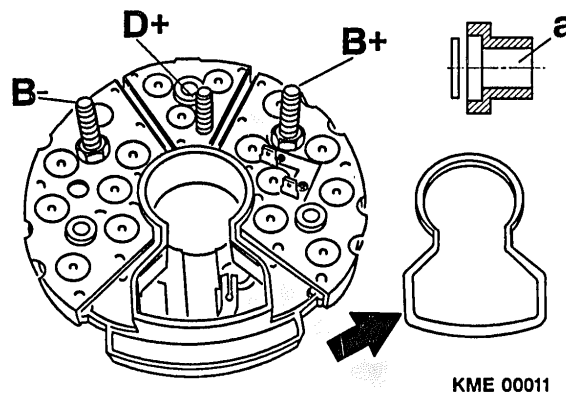

Figure 32 Rectifier Insulators and Seal
- Place flat washer and insulator (a) onto terminal B+ and D+ studs of the rectifier assembly. (Figure 32)
2. Coat the keyhole shaped surface of the rectifier with adhesive. (Figure 32)